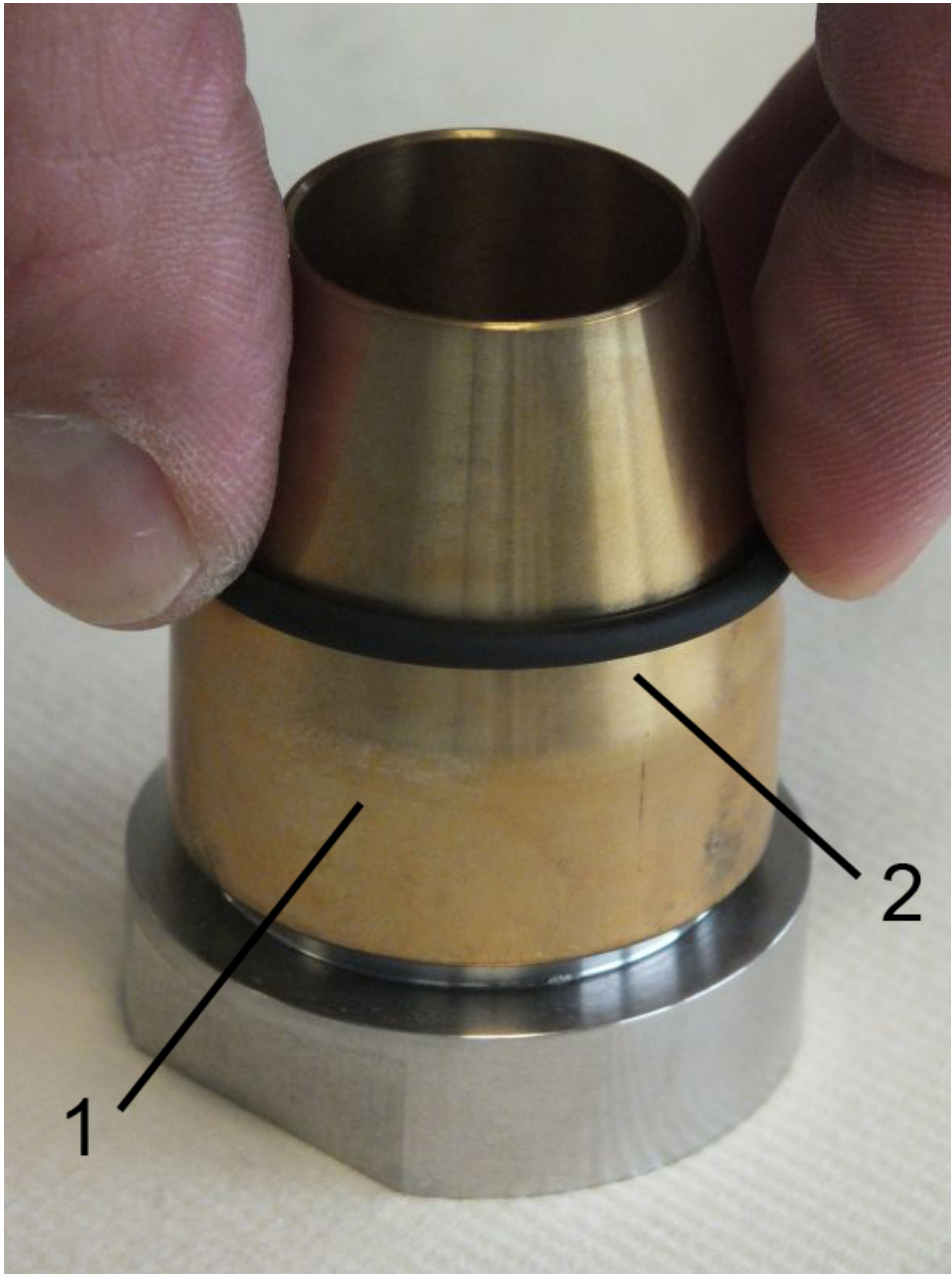
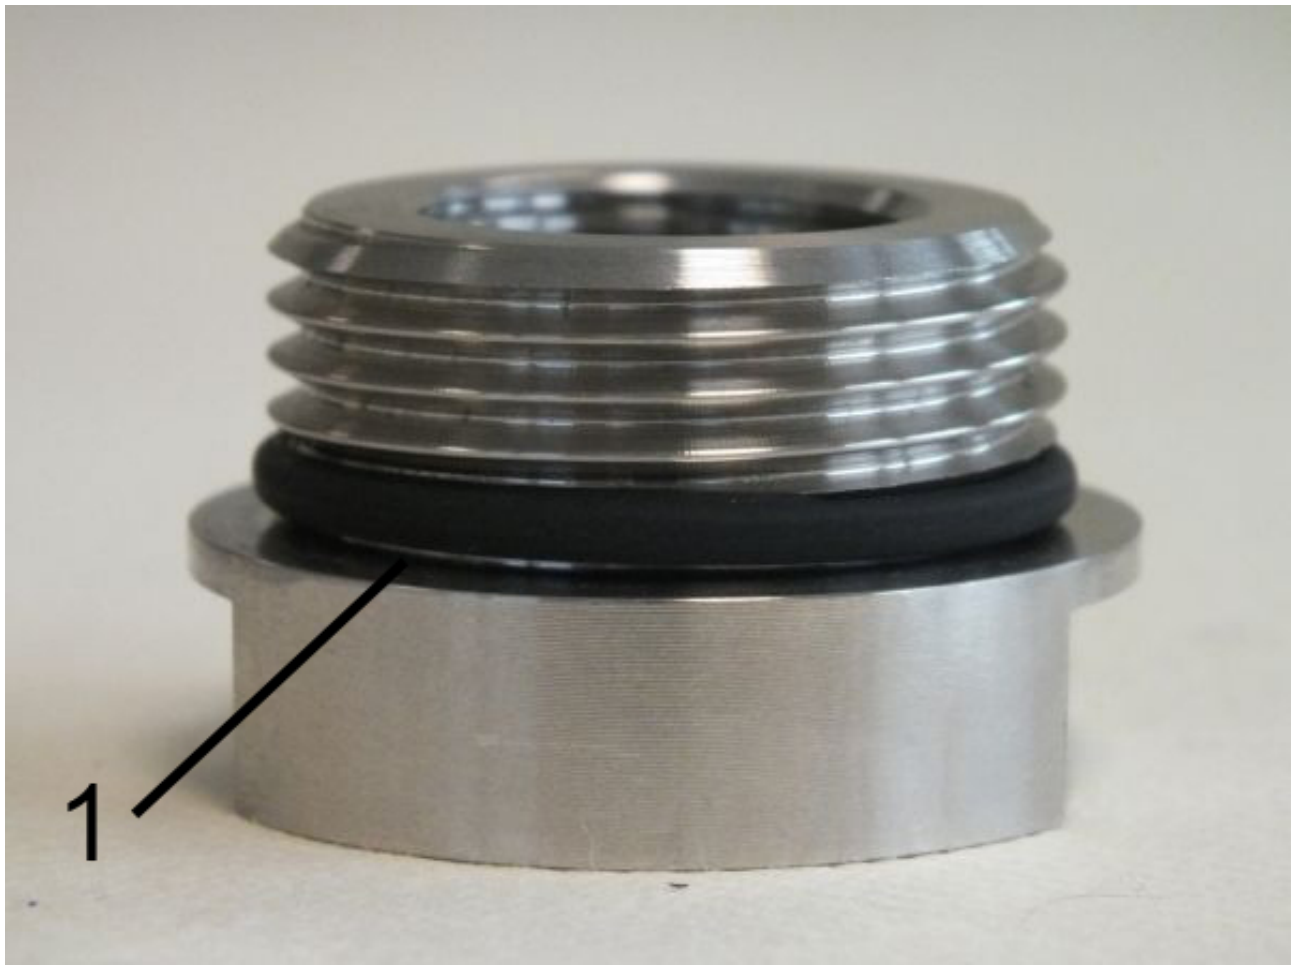

Fig. 60: O-ring (seal)
Fig. 61: Properly positioned O-ring
- 1.** Carefully install the O-rings (*Fig. 60/2*) with the aid of the O-ring installation tool (*Fig. 60/1*) onto both process connections (inlet and outlet), so that they are properly seated in the O-ring grooves of the process connection (*Fig. 61/1*). When doing so, be careful not to overstretch the O-rings.
- 2.** → Position the O-ring properly on the process connection (*Fig. 61/1*)